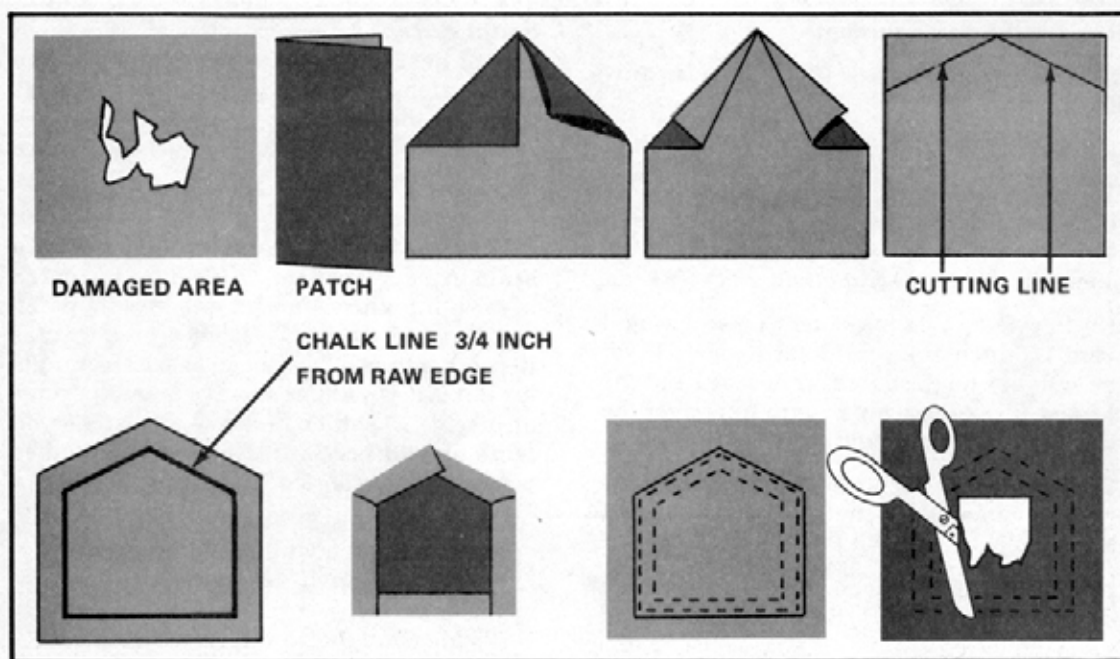

Figure 9-6. Watershed patch
c. Watershed Patch. The watershed patch (Figure 9-6) is a five-sided patch used on the outside of tents. The slant of the two top edges allows water to run off so that it does not collect in the top edge seaming. For this reason, the watershed patch lasts longer than a rectangular patch. Using a watershed patch to repair a tent is preferable to using a rectangular patch. However, a rectangular patch can be used under an eave where the top edge is protected. It can also be used to straddle a ridge on a tent where the top and bottom of the patch are slanted toward the ground. To make a watershed patch--
- (1) Measure the damaged area.
- (2) Cut a patch from matching canvas. Make the patch large enough to extend 2 3/4 inches beyond the damaged area on all four sides.
- (3) Fold the patch in half lengthwise. Crease the folded edge with the handle of a pair of shears.
- (4) Unfold the patch.
- (5) Fold the top right-hand corner to the crease in the center.
- (6) Fold the top left hand corner even with the right-hand corner, and crease these folds in place.
- (7) Fold the inside corner of each triangle to the edge of the outside fold. Crease these folds in place.
- (8) Unfold the patch. Cut off the top corners, using the creases closest to the corners as cutting lines.
- (9) Turn the patch faceup.
- (10) Draw chalk lines 3/4 inch from the raw edges.